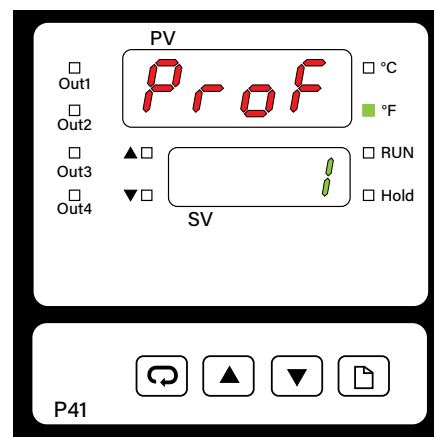

Figure 21
1. From the *StArT* mode, Press the  PAGE key until you see "ProF" (*PrOf*) in the upper display. (See Figure 21).
4. Press the **▲** UP or **▼** DOWN keys until the segment number you want to modify is displayed in the lower display (See Figure 21).